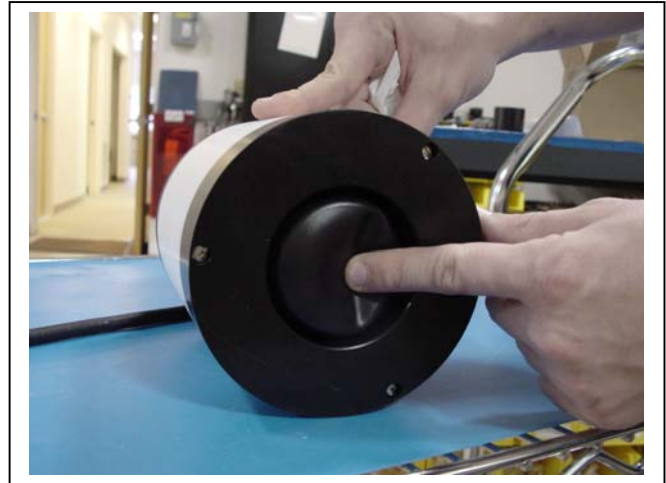

Figure 4-3: Correct Silicone Oil Level
2. A properly filled bladder (as shown in Figure 4-3) indents approximately one inch when slight pressure is applied with the index finger on the center of the bladder.